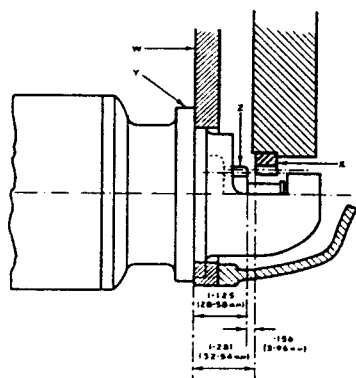

FIG. 8
Wear on the starter gear ring of the flywheel can be considerably reduced by ensuring correct engagement between its teeth and those of the starter motor pinion. The dimension between the front edge of the starter gear ring (X) on flywheel and the starter mounting bracket face (Y) should be 1.281" (32.54 mm.) as shown in Fig. 8.
**Note :** Engine Serial Nos. S67029E onwards—The position of the starter gear ring locating flange on the flywheel has been altered to reduce starter pinion clearance shown in Fig. 8, by  $\frac{1}{16}$ " (1.6 mm.)